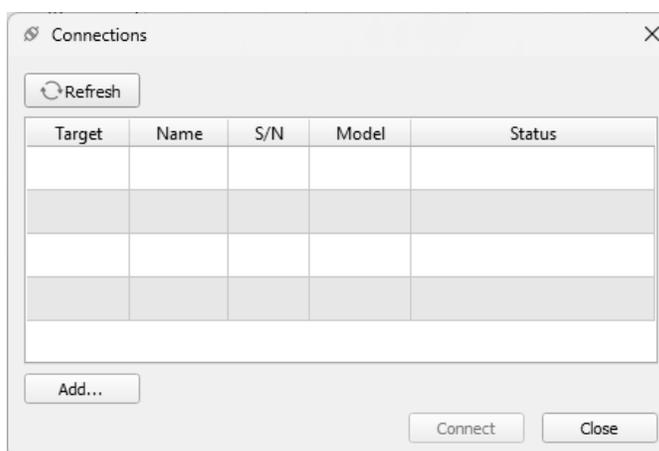

Fig. 2-7. Connections dialog box.
2. Launch the software using the “UGASoft” link if it is not opened. If the software is already launched and the Connections dialog box (Fig. 2-7) is closed, open it up again by selecting menu File > Connect UGA.